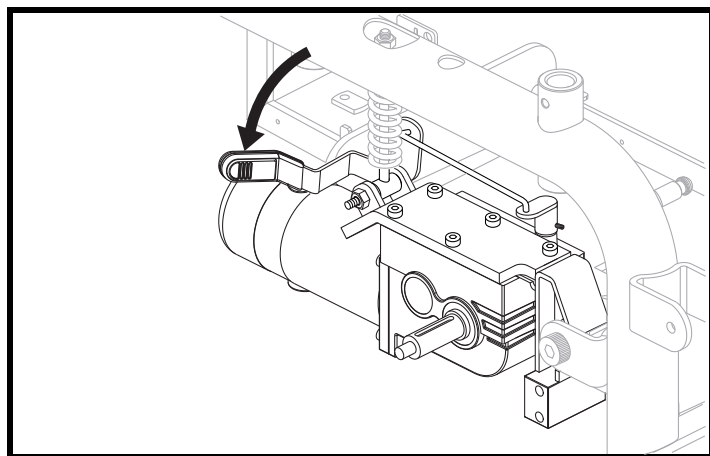

Figure 9. Freewheel Mode (Drive Disengaged)
1. Push the manual freewheel lever on each motor down for freewheel mode (drive disengaged). See figure 9.